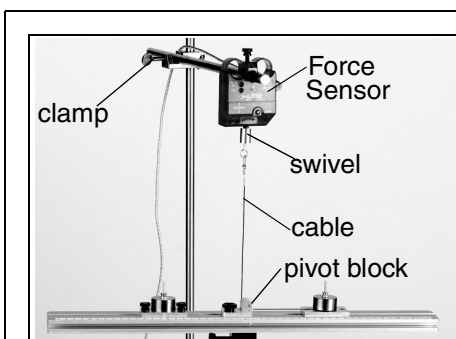

Figure 3a: Mounting the Force Sensor
8. Attach a Multi-Clamp to the upper end of the stainless steel rod (See Figure 3a).
10. Slide a Force Sensor onto the stainless steel rod and adjust the top screw to anchor it to the rod (Figure 3a). (Note: Be sure to keep the cords from the sensor out of the path of the rotating arm.)